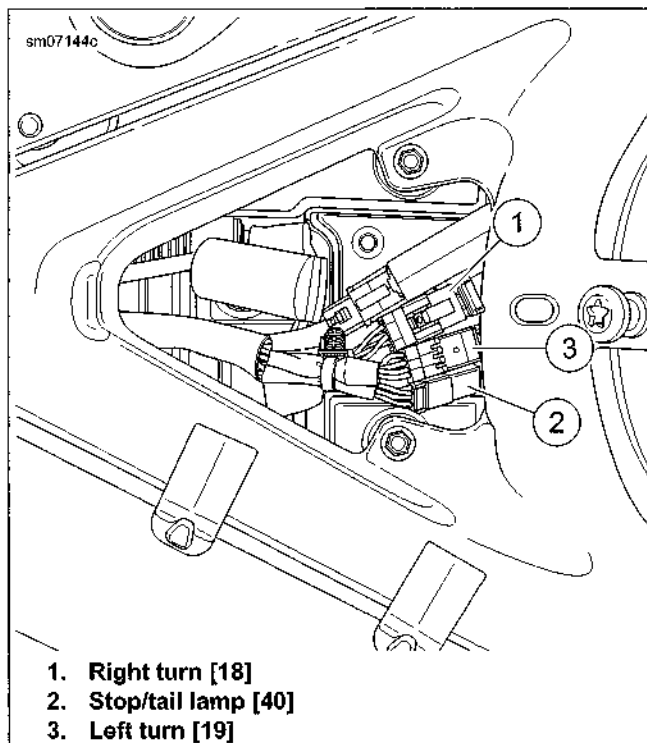

Figure 6-80. Rear Lighting Connectors: XL 1200C/CP/CA/CB
6. See Figure 6-80. Separate the right turn signal [18] (1) and left turn [19] (3) connector housings.